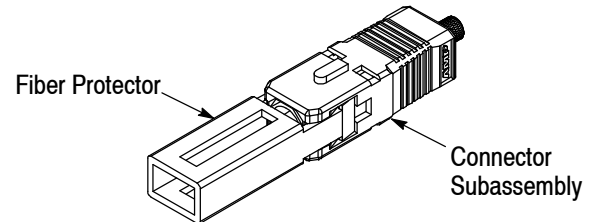

Figure 4
- If using epoxy, install the fiber protector onto the connector subassembly as shown in Figure 4.